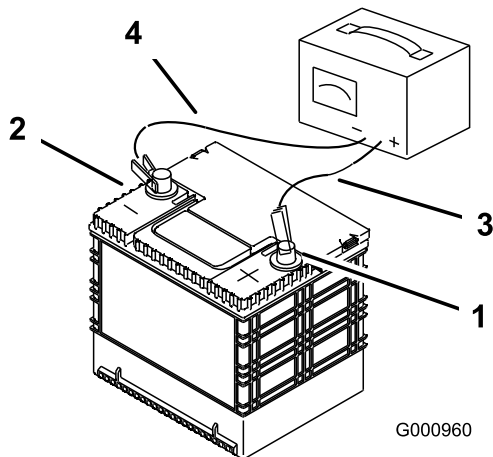

Figure 68
3. When the battery is fully charged, unplug the charger from the electrical outlet, then disconnect the charger leads from the battery posts (Figure 68).